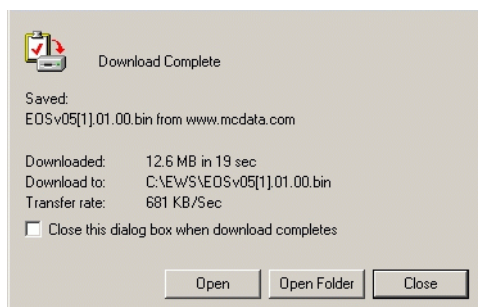

Figure 4-57 Download Complete Dialog Box
11. A *Download* dialog box displays, showing the estimated time remaining to complete the download. When the process finishes, the dialog box changes to a *Download complete* dialog box (Figure 4-57).